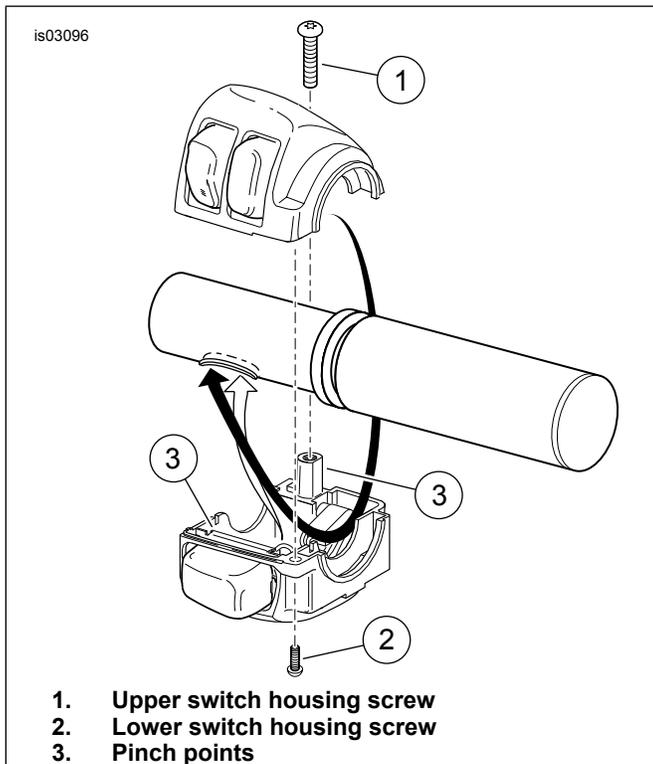

Figure 3. Switch-Housing Wire Routing (Right-Side Housing Shown)
5. **For 2015 and newer models:** Gently feed the twist grip sensor wire bundle into the right side handlebar end. See Figure 3. Route the right side switch wire bundle through the switch housing as shown. Gently feed the wire bundle into the right side switch wire hole. Pull the bundles down through the new handlebar and toward the center of the bar, while fitting the index tabs on the twist grip sensor into the slots on the end of the handlebar. One index tab and slot are smaller than the other to aid in proper assembly.
9. See Figure 3. Route the switch wire bundle through the switch housing as shown. Gently feed the wire bundle into the oblong switch wire hole near the right side end, and toward the center of the handlebar.